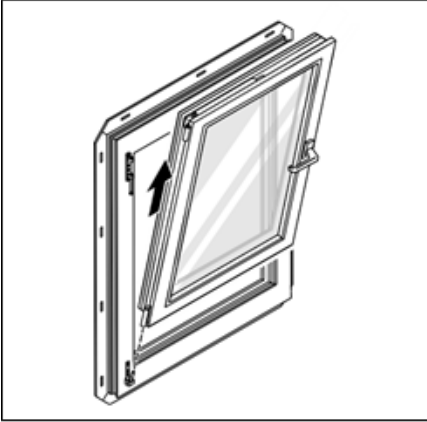

Figure 2-8. How to remove the sash from the frame
- 3.4 Slightly tilt the sash towards you. Lift the sash up off the lower hinge pin. See fig. 2-8.